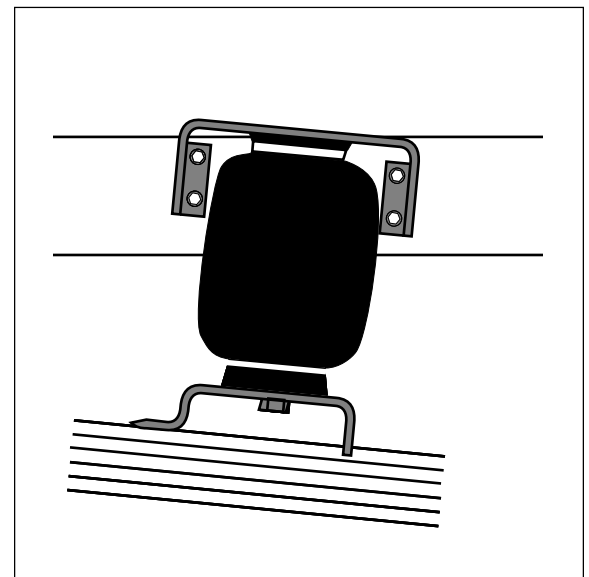

Figure 8
4. Check to see that the sleeve rolls back down over the bottom piston after the vehicle is lowered (Figure 8 and 9).
8. *Should it become necessary to raise the vehicle by the frame, make sure the system is at minimum pressure (10 p.s.i.) to reduce the tension on the suspension/brake components.* Check to see that the sleeve rolls back down over the bottom piston after the vehicle is lowered (Figure 8). If sleeve fails to roll back down over the piston, add air pressure until sleeve “pops” back over piston (do not exceed 100 p.s.i.).